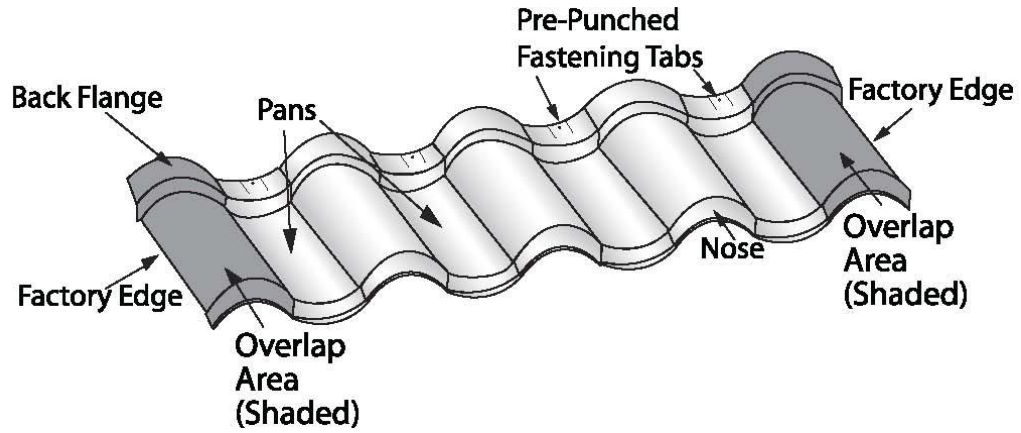

Figure 1. Villa Tile
**System 1:** The steel panels are installed with a 5-3/8" side lap and are interlocked in the vertical position with the course below. The shingles are attached to the plywood deck with No. 8 x 1-1/2" long hex head steel screws placed with one screw per fastening tab for a total of four fasteners per panel length. Refer to (Figure 1).
**System 2:** The steel panels are installed with a 5-3/8" side lap and are interlocked in the vertical position with the course below. The shingles are attached to the plywood deck with No. 12 x 1-1/2" long hex head steel screws placed with one screw per fastening tab for a total of four fasteners per panel length. Refer to (Figure 1).